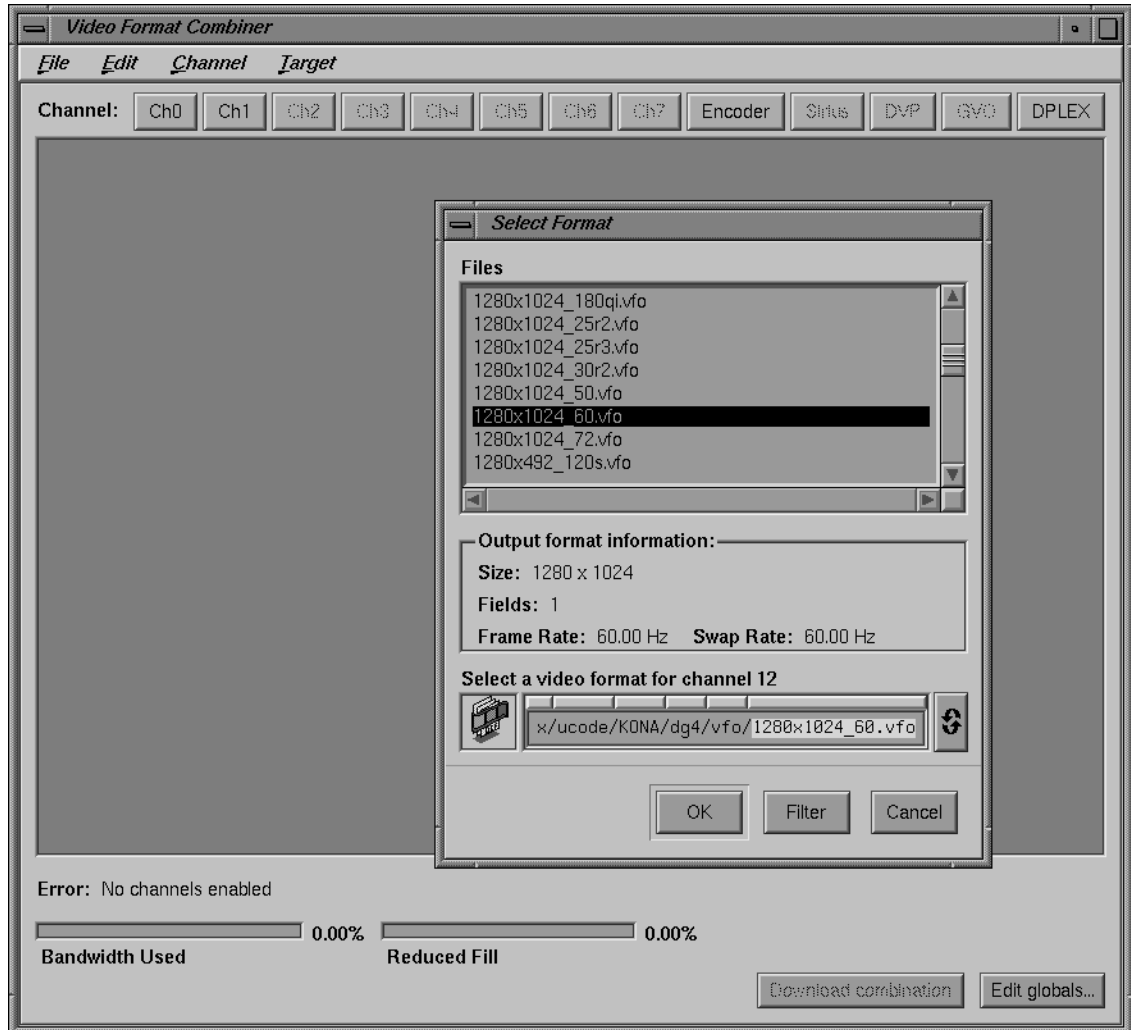

Figure 3-1 Combiner Main Screen Example with DPLEX Selected
The basic combiner screen has been modified to show a DPLEX option. Figure 3-1 shows the combiner interface main screen with the DPLEX option selected.
1. Create a combination with channel 0 on pipe 0 set to 1280x1024\_60. Then set channel 1 to 1280x1024\_60 and the DPLEX channel to 1280x1024\_60. If the genlock signal is coming from an outside source, (house sync) the format on channel 1 does not need to be loaded. See Figure 3-1.